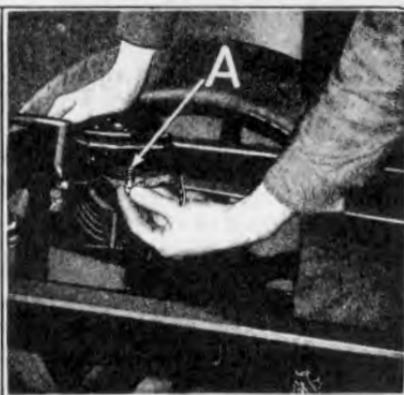

Fig. 74
**77 Install spare rim carrier** by running down the four spare rim carrier bolts, lockwashers and nuts which hold each side of carrier to rear cross member and corner brackets (See "B" Fig. 51). Before installing bolt in front end of left side of carrier, place tail light wire spring with fibre clamp attached over end of bolt (See "A" Fig. 74).